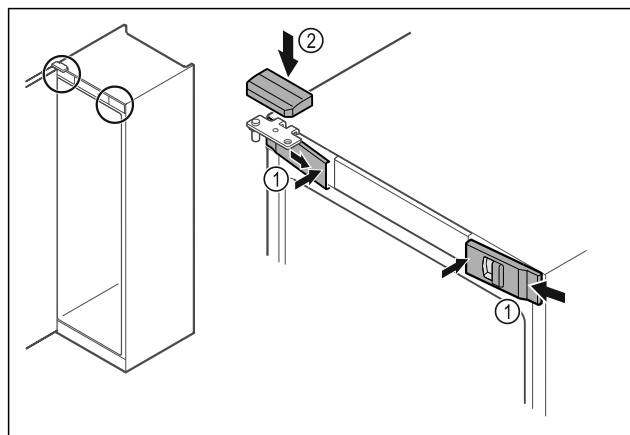

Fig. 48
- ▶ Hook in the front covers Fig. 48 (1) on the side and snap them into place on the inside.
- ▶ Snap on the top cover Fig. 48 (2) from above.